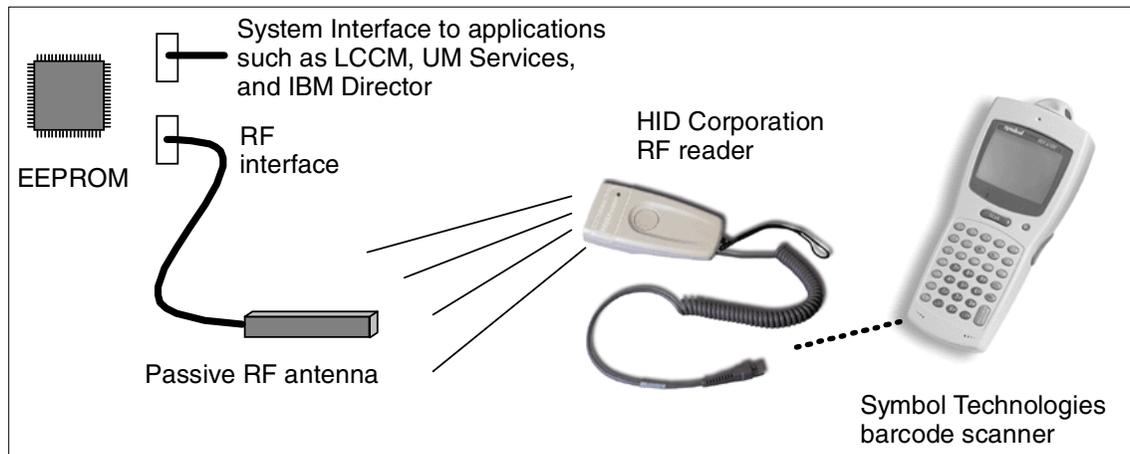

Figure 2. Asset ID EEPROM and passive antenna
- A radio frequency (RF) reader, an external device. One implementation, as shown in Figure 2, uses the combination of a handheld programmable barcode scanner (known as a portable data terminal or PDT) and an RF reader. There are generally three types of reader: handheld, portal, and panel.